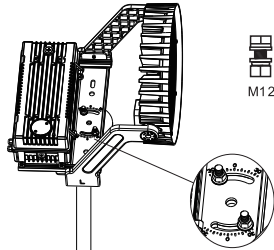

Figure 7
- 1. According to the need to adjust the lighting direction, can be 360 degrees rotation adjustment, tightened with screws when the adjustment is completed (Figure 7);